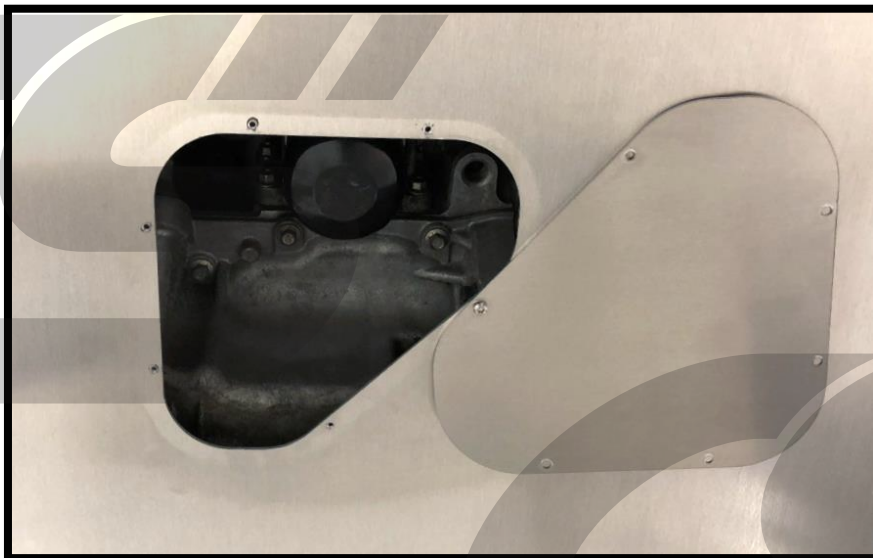

Figure 4b
- e) Rotate the oil filter access cover out of the way. Shown in **Figure 4b**.